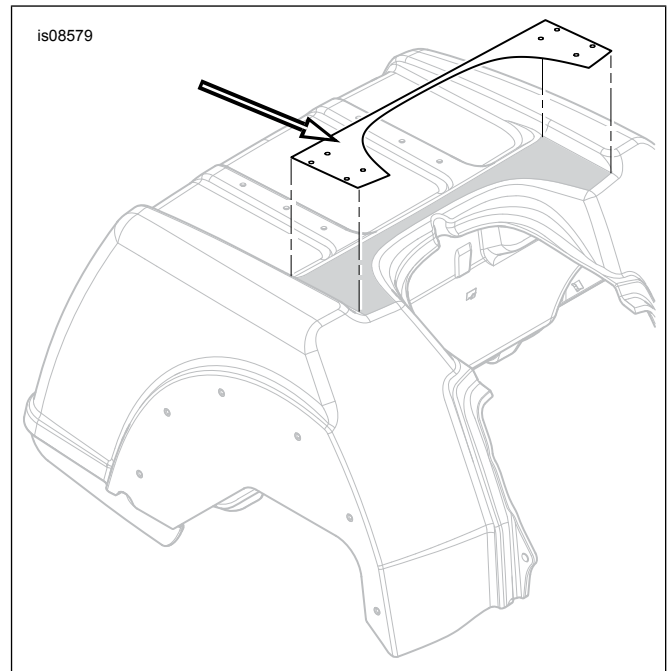
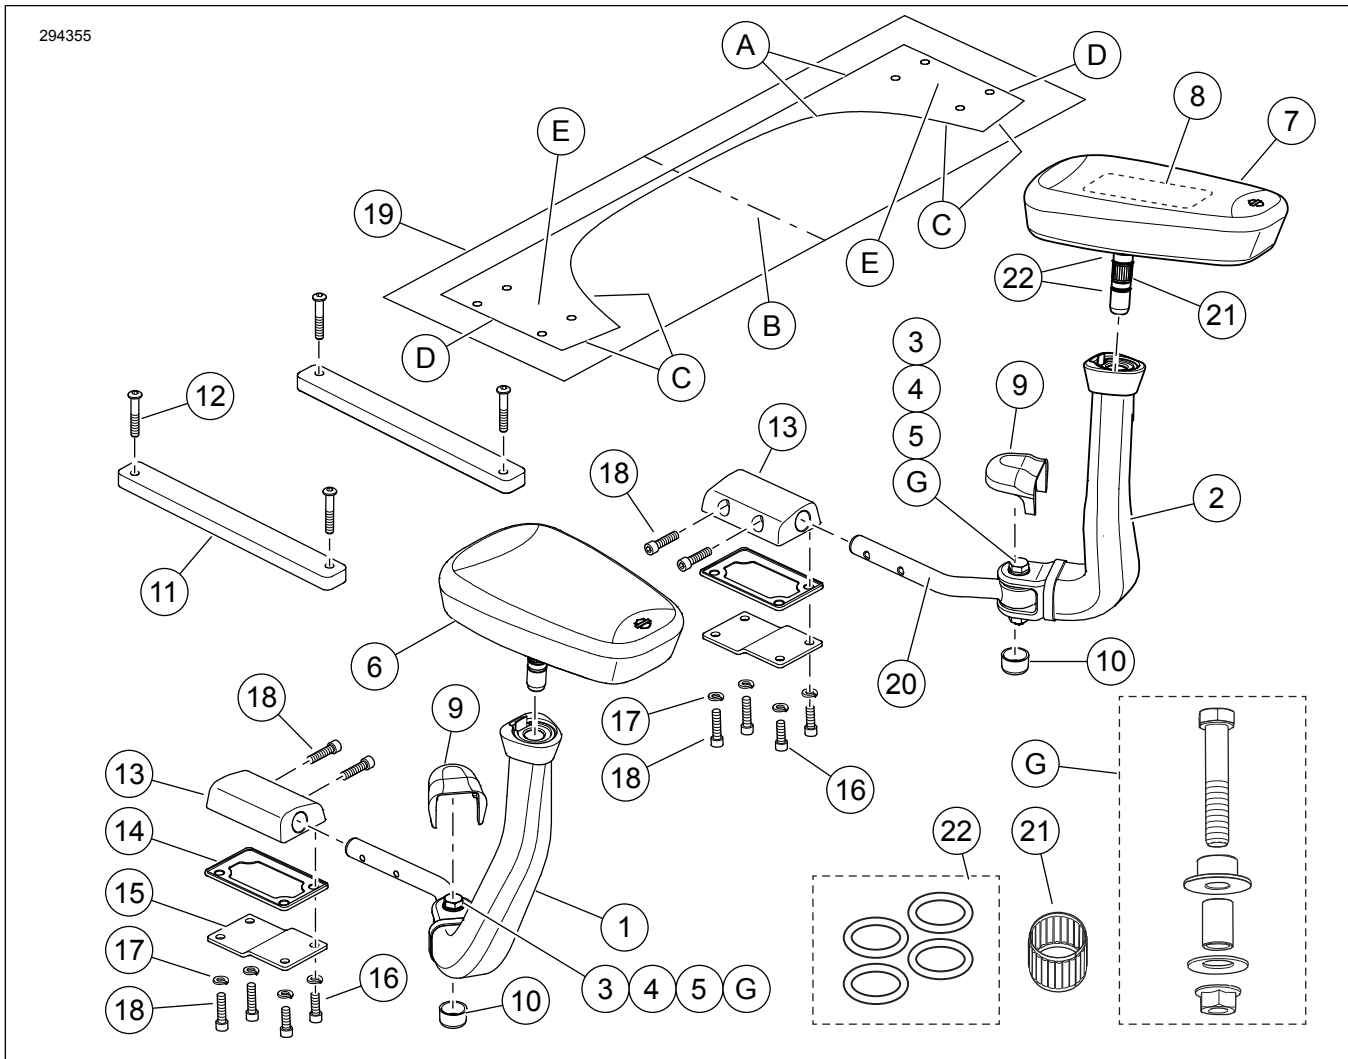

Figure 1. Armrest Support Drilling Template
Figure 3. Service Parts, Trike Passenger Armrest Kit
See Figure 3. and Refer to Table 1.
1. **ALL models:** See Figure 3. Get the armrest support drilling template (19) from the kit. Cut out the template along the black outline (A). See Figure 1. Place the template on the top front of the vehicle body, aligning with body contours.
- a. See Figure 3. Align the template centerline (B) with the seat mounting screw threaded hole.
- b. Align the template forward edges (C) along the body downward curves.
- c. Align the template sides (D) between the body upward curves.
2. See Figure 3. Assemble an armrest support block (13\*) and pad (14). Place the assembly onto the vehicle body with the two side holes facing the vehicle center. Align the four mounting holes.
3. Get an armrest support plate (15), two short screws (16), two long screws (18) and four split lockwashers (17) from the kit. Slide a lockwasher onto the threads of each screw.
- i. See Figure 3. Place two armrest support adapter plates (11) on the Tour-Pak mounting rack. Align the four holes.
- j. Get four long button head cap screws (12) from the kit. Insert the screws through the ground plate, Tour-Pak bottom and armrest support adapter plates. Thread the screws into the nuts on the underside of the Tour-Pak mounting bracket.